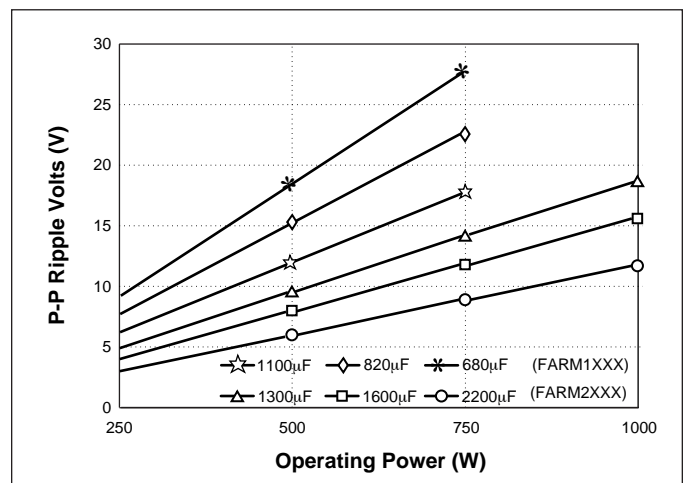

Figure 16—Ripple voltage vs. operating power and bus capacitance, series combination of C1, C2 (see Fig. 9)
**Determining Ripple Voltage on the Hold-up Capacitors.** Figure 16 is used to determine ripple voltage as a function of operating power and bus capacitance, and shows that the ripple voltage across the hold-up capacitors will be 12V p-p.